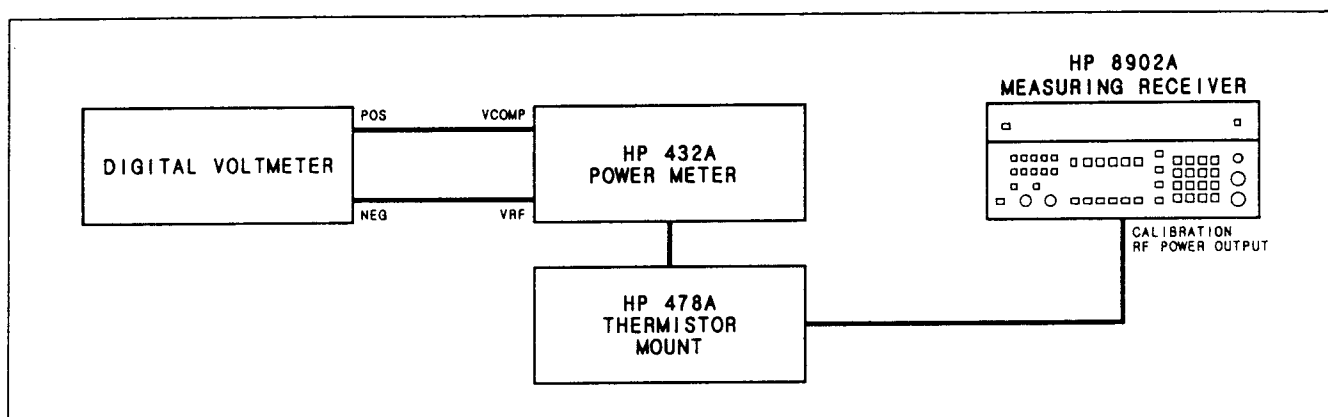

Figure 4–6. Power Reference Performance Test Setup
2. Connect the equipment as shown in Figure 4–6. The input of the digital voltmeter should be floating. The positive input of the voltmeter should be connected to the rear-panel VCOMP connector of the HP 432A Power Meter, the negative input to the VRF connector. Switch the equipment on and let it warm up for at least 30 minutes.